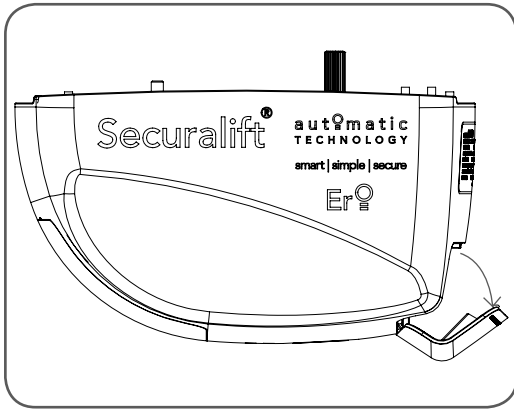

fig 28
- Swing open the controls cover to gain the access to the controls panel (Fig. 28) and swing back into its position when setup is completed.